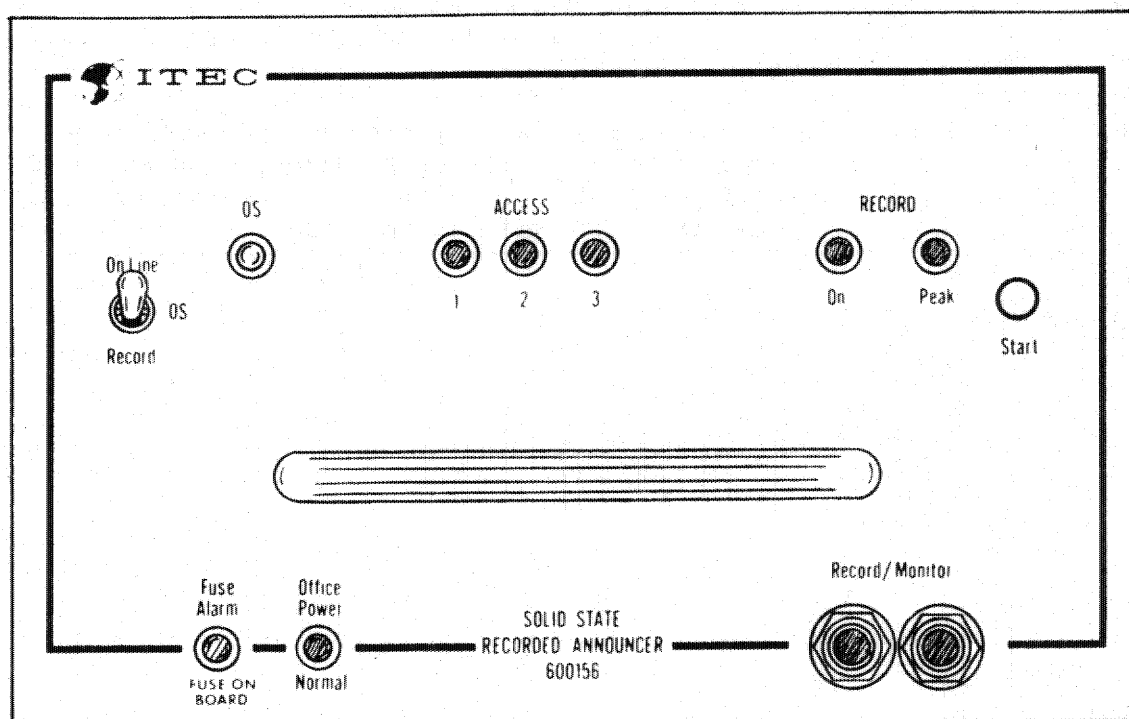
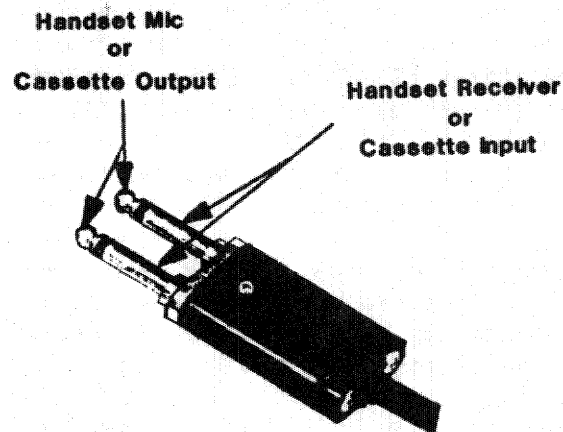

Figure 9. Front Panel Controls & Indicators
Figure 10. Record/Monitor Dual Plug
2.01 The front panel controls and indicators are shown in Figure 9. Their functions are listed in TABLE 6. The dual plug) ITEC part #100015) is shown in Figure 10. A patch cord must be fabricated locally using this plug or similar for connecting a cassette player to the Recorded Announcer.